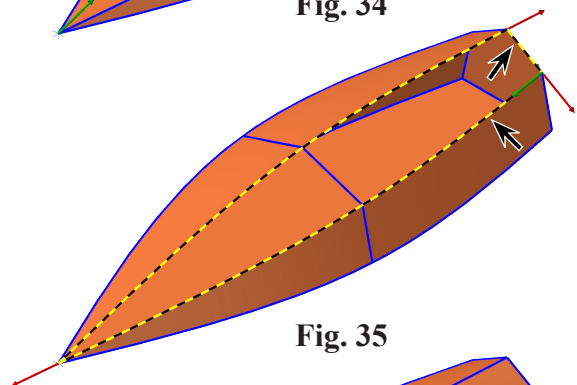

Fig. 35
Step 8. Walk Chain around the rear and side spline in direction of Chain arrows, **Fig. 35**.